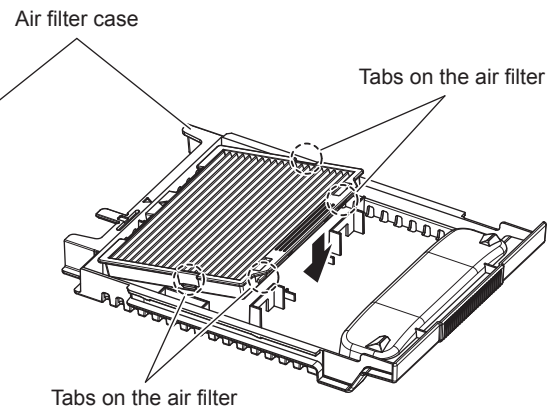

Fig. 2
- Push in the air filter in the direction of the arrow, and fit the tabs securely. (Fig. 2)